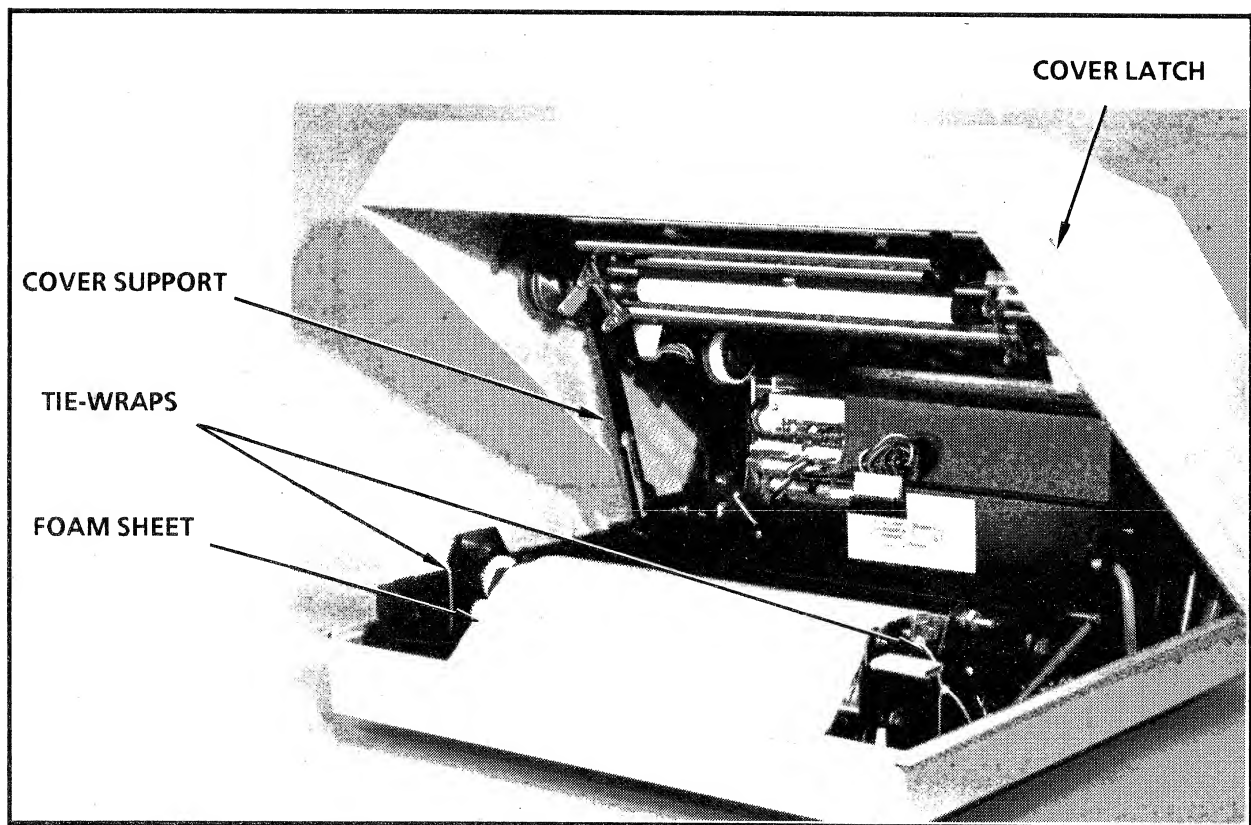

Figure 2-1. C2700 Series Thermal Plotter (*cover open*)
4. Pull the cover latch on the right side of the plotter chassis *up* and lift the top cover to access the interior of the plotter. Ensure the cover support is locked in place (Figure 2-1).
5. Carefully remove the protective foam sheet from the thermal printhead (Figure 2-1).
7. Cut and remove the two tie-wraps securing the ink donor roll tray guide, as shown in Figure 2-1.
- Secure the ink donor roll tray guide with tie-wraps. Refer to step 10, *Unpacking*, and Figure 2-1.